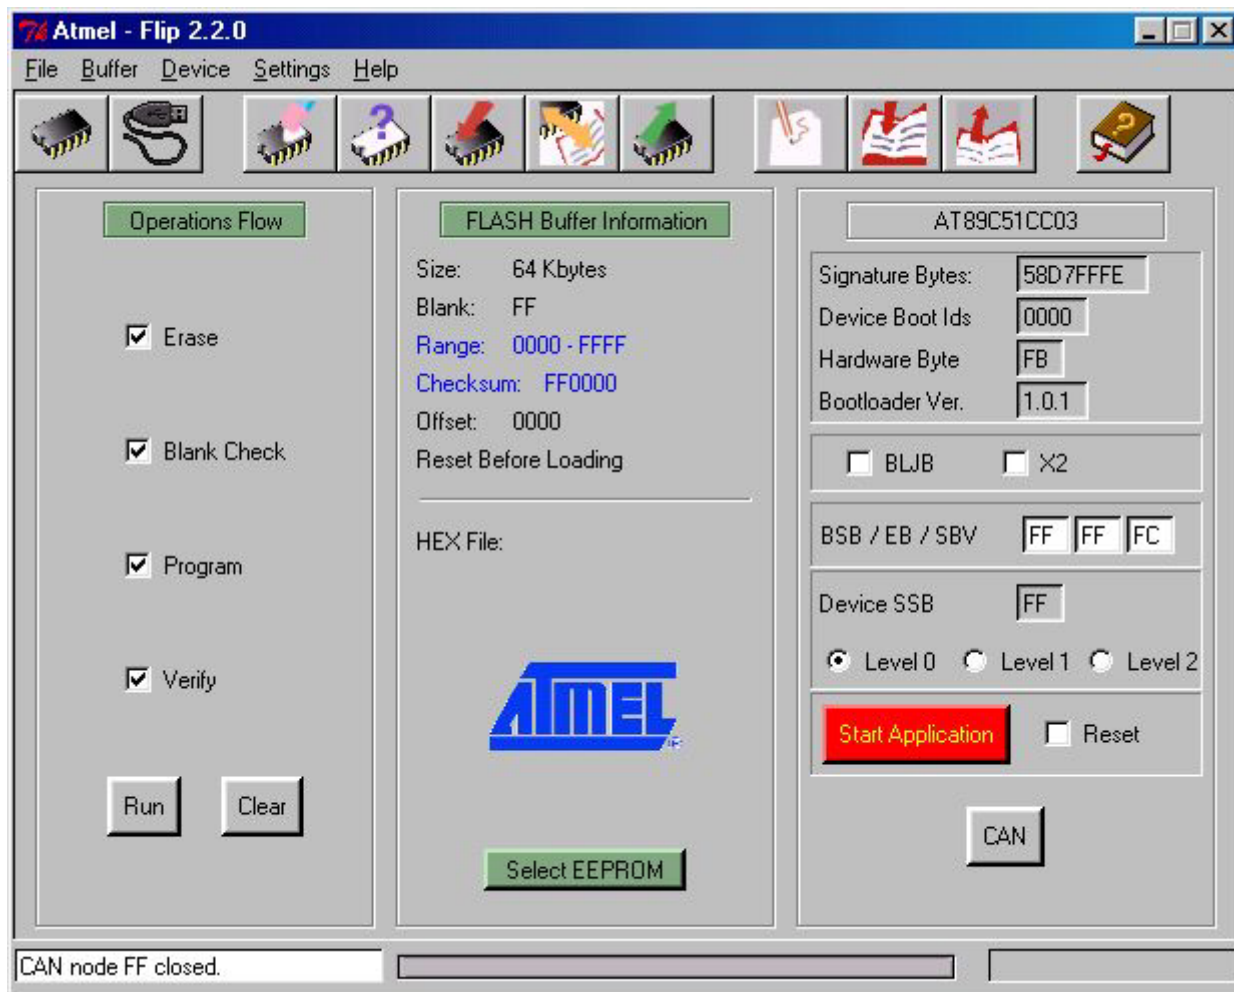

FIGURE 16: FLIP SETTINGS WINDOWS (3 OF 3)
- B9) Make sure that text boxes in the frame AT89C51CC03 fill with text, like in figure 16.